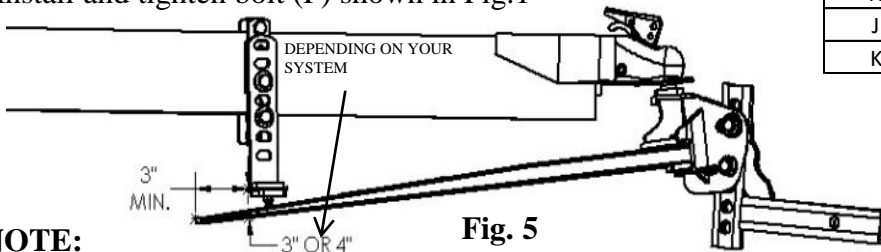

Fig. 5
- During ball mount adjustment, it may be necessary to raise or lower the L-bracket (L) to get the proper spring bar load if there is not enough head angle adjustment. If there are not enough washers to get the dimension shown in fig. 5, move the L-bracket (L) up 1 set of holes.
- If you have a 6" tall frame with a bottom mounted coupler (inverted coupler) it may be necessary to install brackets (V) and (W) upside down in order to get the L-bracket (L) mounted low enough. This will lower the L-bracket 1.75" Otherwise there may be too much spring bar pressure.
- Torque both 3/4" nuts (E) to 300 ft.\*lbs. when the desired angle is achieved. If a large enough torque wrench is not available, torque nuts to 150 ft.\*lbs. then tighten the nuts an additional 1/4 turn. Do not lubricate the threads.